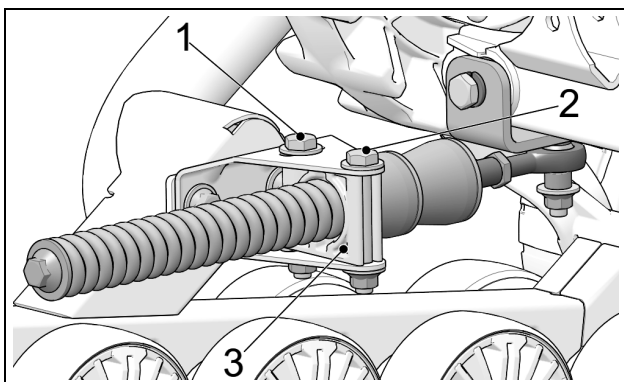

Figure 16
- Loosen anti-rotation bracket bolts (1) and (2) to allow anti-rotation retainer (3) to rotate on its axis. See Figure 16.